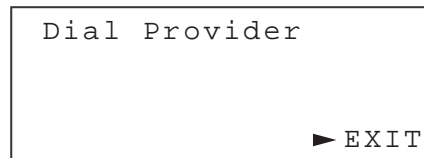

Figure 9-3 Dial Provider Screen
- STEP 4** When the Dial Provider screen appears (Figure 9-3), press  to select the Dial Provider command, then press  to contact the provider and download information.
STEP 7 Press  to EXIT the SENDING REPORT screen and return to the Dial Provider screen (Figure 9-3). Press  again to return to the self-test screen.